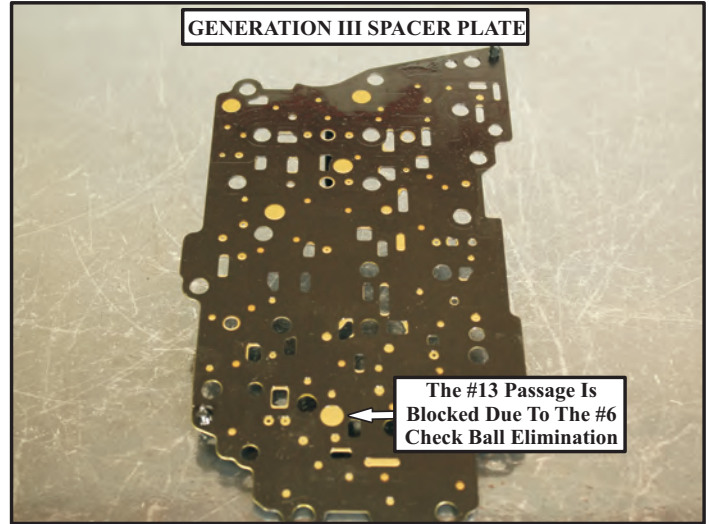

Figure 16
- (11) The Main control valve body to transfer spacer plate has eliminated the #13 passage (figures 16 and 17).